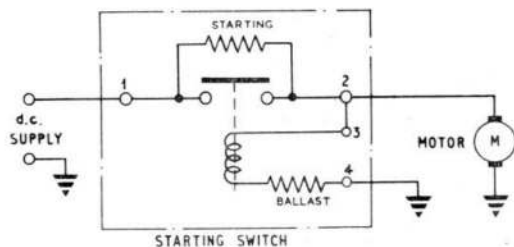

Fig. 2. Typical circuit diagram
5. A circuit diagram showing a typical installation is given in fig. 2, with the starting resistor connected in series with the motor armature to limit the initial starting current. As the back E.M.F. of the motor builds up, an increasing voltage is applied across the relay coil. When this voltage reaches a pre-determined value, the relay operates, closing the contacts and short-circuiting the starting resistor.